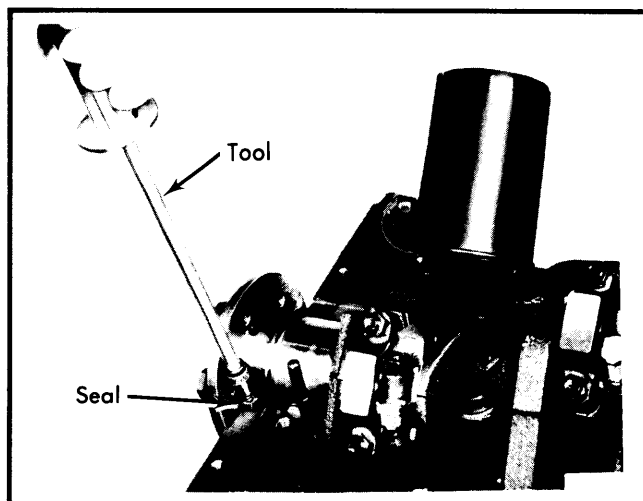

Fig. 11 Removing Upper Rear Main Oil Seal
**Removal W/Crankshaft Installed** — With oil pan removed, remove rear seal retainer and rear main bearing cap. Remove upper seal by turning suitable tool (C-4148) into end of seal and pulling seal out with tool (do not mar crankshaft). Remove lower seal by prying carefully from the side with small screwdriver. See Fig. 11.